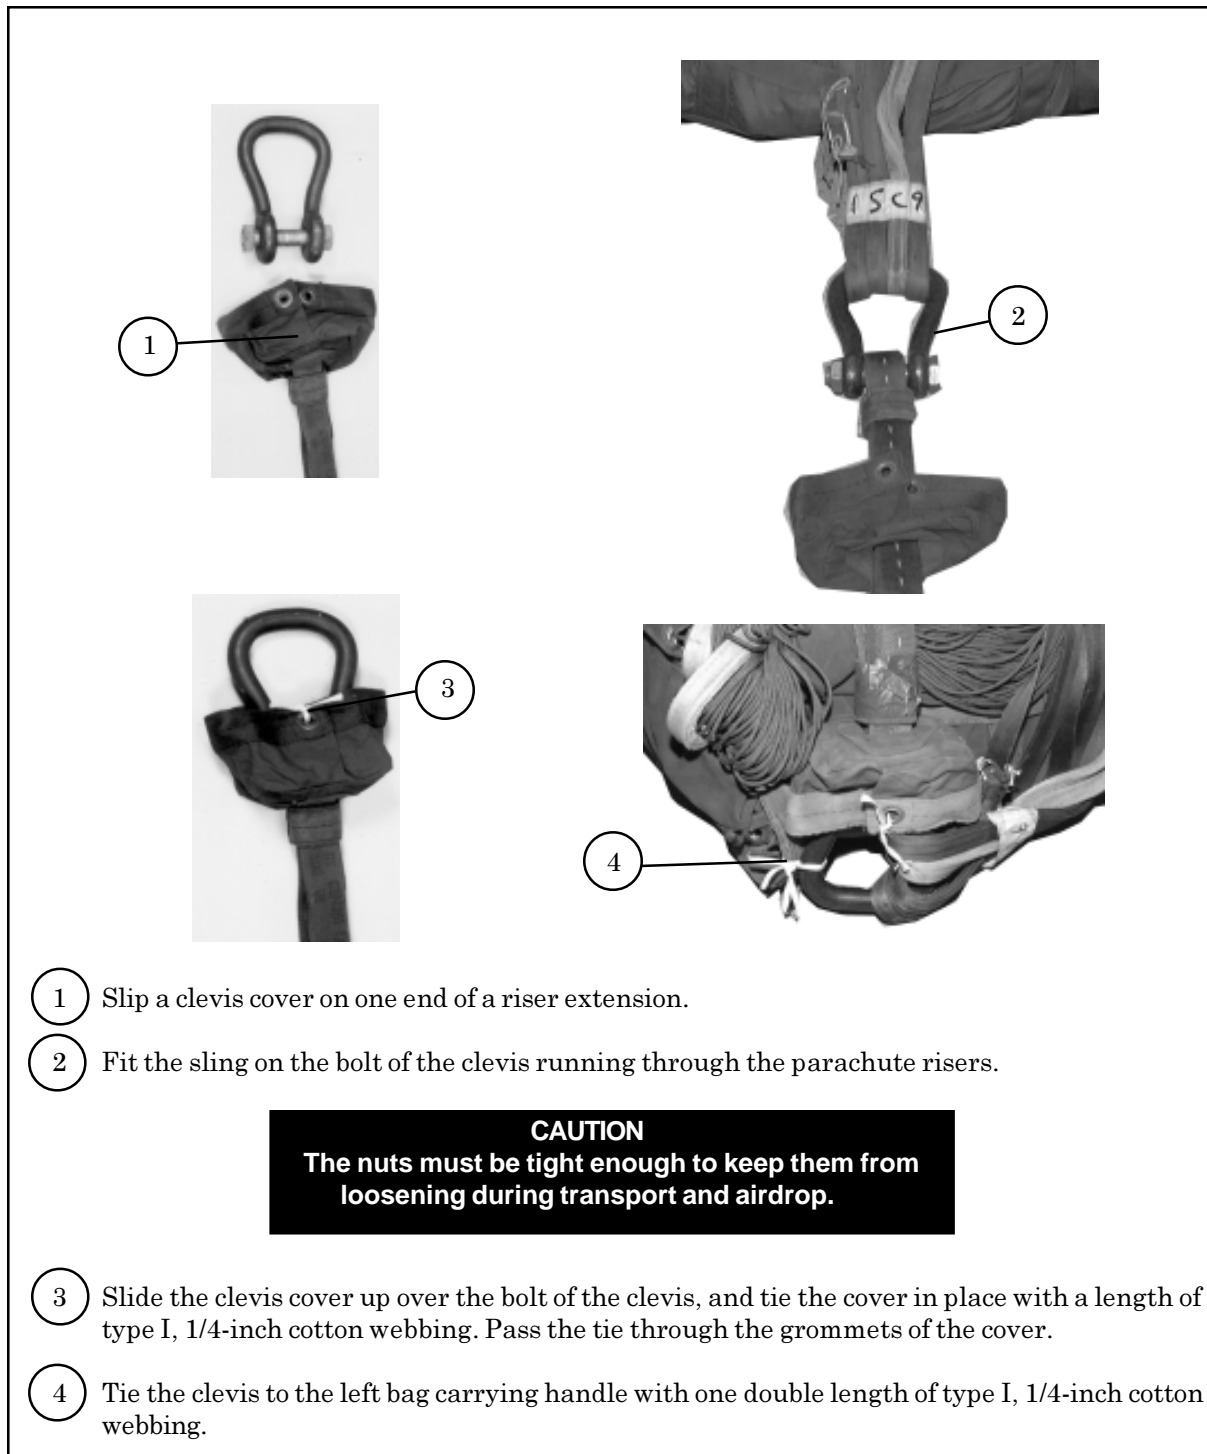

Figure 3-16. Riser Extension Bolted to Risers
b. Bolting Extensions to Risers. Bolt the riser extension to the risers of a cargo parachute as shown in Figure 3-16.